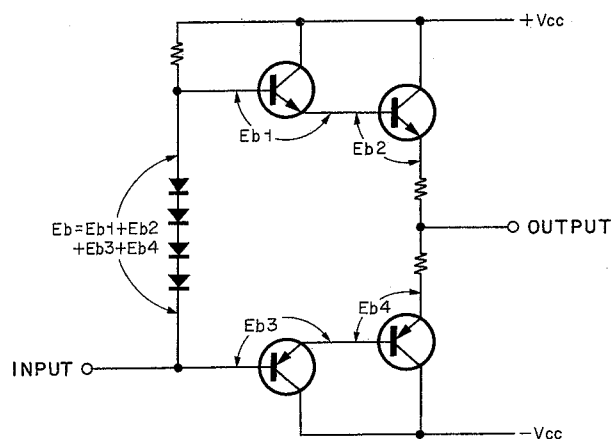
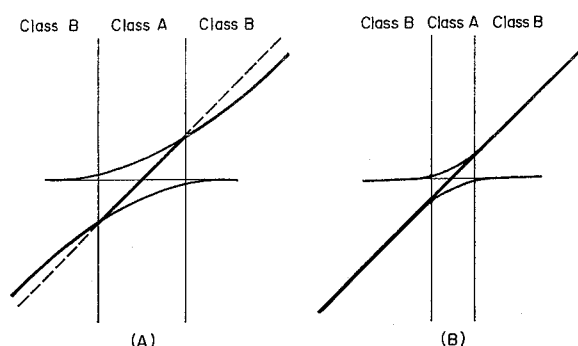
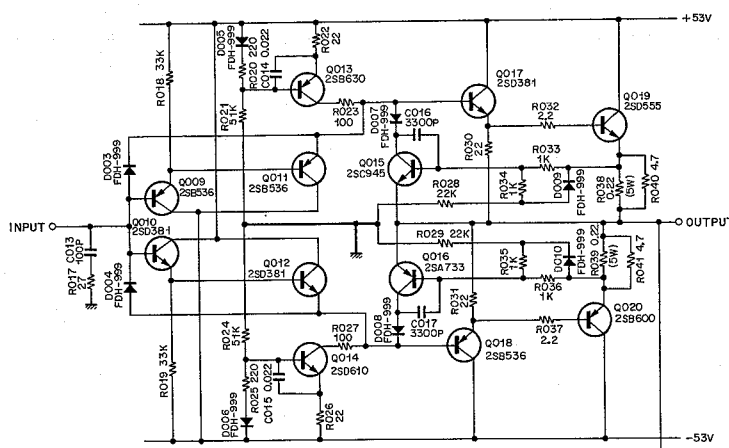
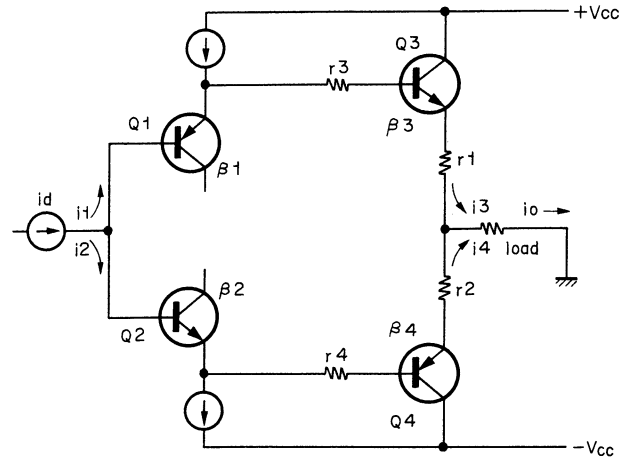

Fig. 2.4
Fig. 2.5
Fig. 2.3
Fig. 2.6
Especially for a class B push-pull amplifier, distortion cannot be reduced unless the positive and negative signal amplifiers are well balanced. The amplifier in the 620, however, is best balanced thanks to the vertically and horizontally symmetric configuration as shown in Fig. 2.3. This circuit allows distortion of only 0.1% at 1KHz 100 watts output even without NFB. This degree of distortion is low enough to make the amplifier used as a high-fidelity unit even if it is given no NFB.
Fig. 2.4 shows that a change in current flowing across the diode varies the terminal voltage and that E_b changes with signal current. These changes result in the generation of distortion. It is a matter of course that signal current flowing across the diode will produce distortion. See Fig. 2.3. Transistors Q009, Q011, Q010 and Q012 that generate bias voltage form an emitter-follower circuit of class A operation. Thus this circuit does not induce distorted signals.
For an ordinary class B amplifier, crossover distortion is reduced by increasing idling current thus overlapping the operating ranges of the positive and negative transistors. The overlap portion acts as a class A amplifier. Generally, the degree of amplification decreases where a change takes place from class A to B and no linear curve is obtained as shown in Fig. 2.5 (A). However, if the circuit shown in Fig. 2.3 is current-driven, a linear curve can be obtained at the point of change from class A to B as shown in Fig. 2.5 (B).
Fig. 2.6 illustrates a simplified version of the circuit shown in Fig. 2.3.
Since the direct-coupled two-stage emitter-followers can be regarded to be one emitter-follower having greater current amplification, the Q009–Q011, Q010–Q012, Q017–Q019, and Q018–Q020 will be designated respectively to be Q1, Q2, Q3 and Q4 as shown in Fig. 2.6.